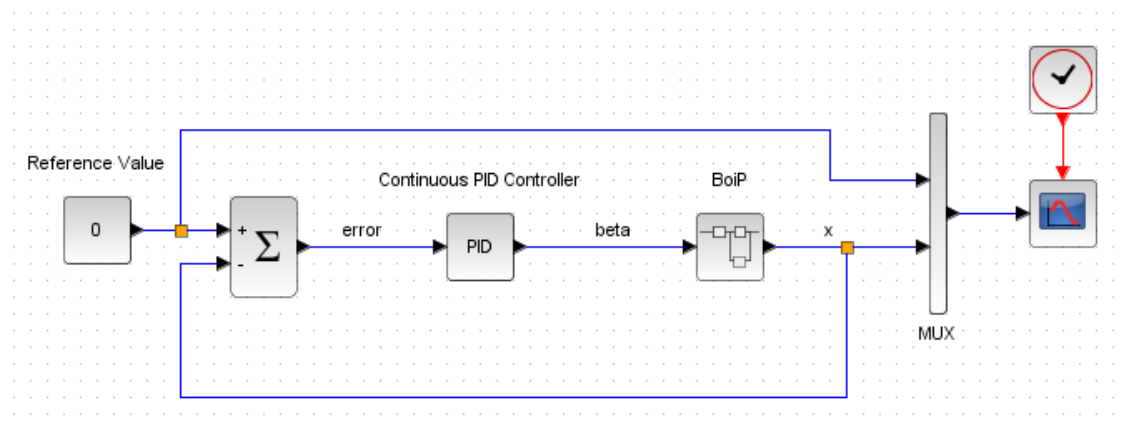

Figure 1: Closed loop control
After creating the subsystem for the controlled system (BoiP), add a continuous PID controller and a constant box for the reference value (position). The resulting window should be similar to Figure 1.
- Create a closed oop according to Figure 1.